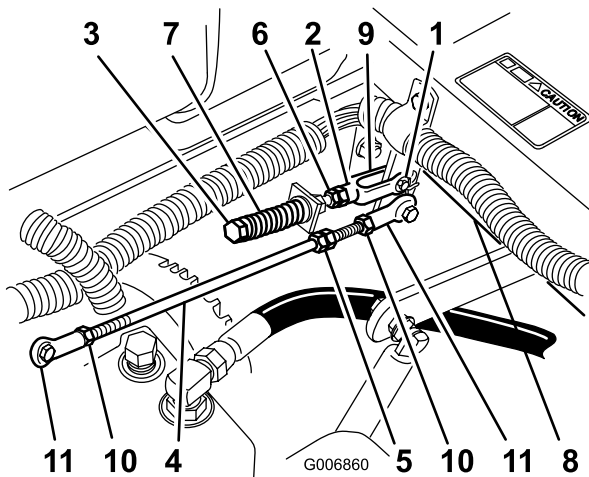

Figure 64
8. If adjustment is needed, loosen the nut and jam nut against the yoke (Figure 64).
9. Apply slight rearward pressure on the motion control lever, turn the head of the adjustment bolt in the appropriate direction until the control lever is centered in the neutral lock position (Figure 64).
10. Tighten the nut and jam nut (Figure 64).